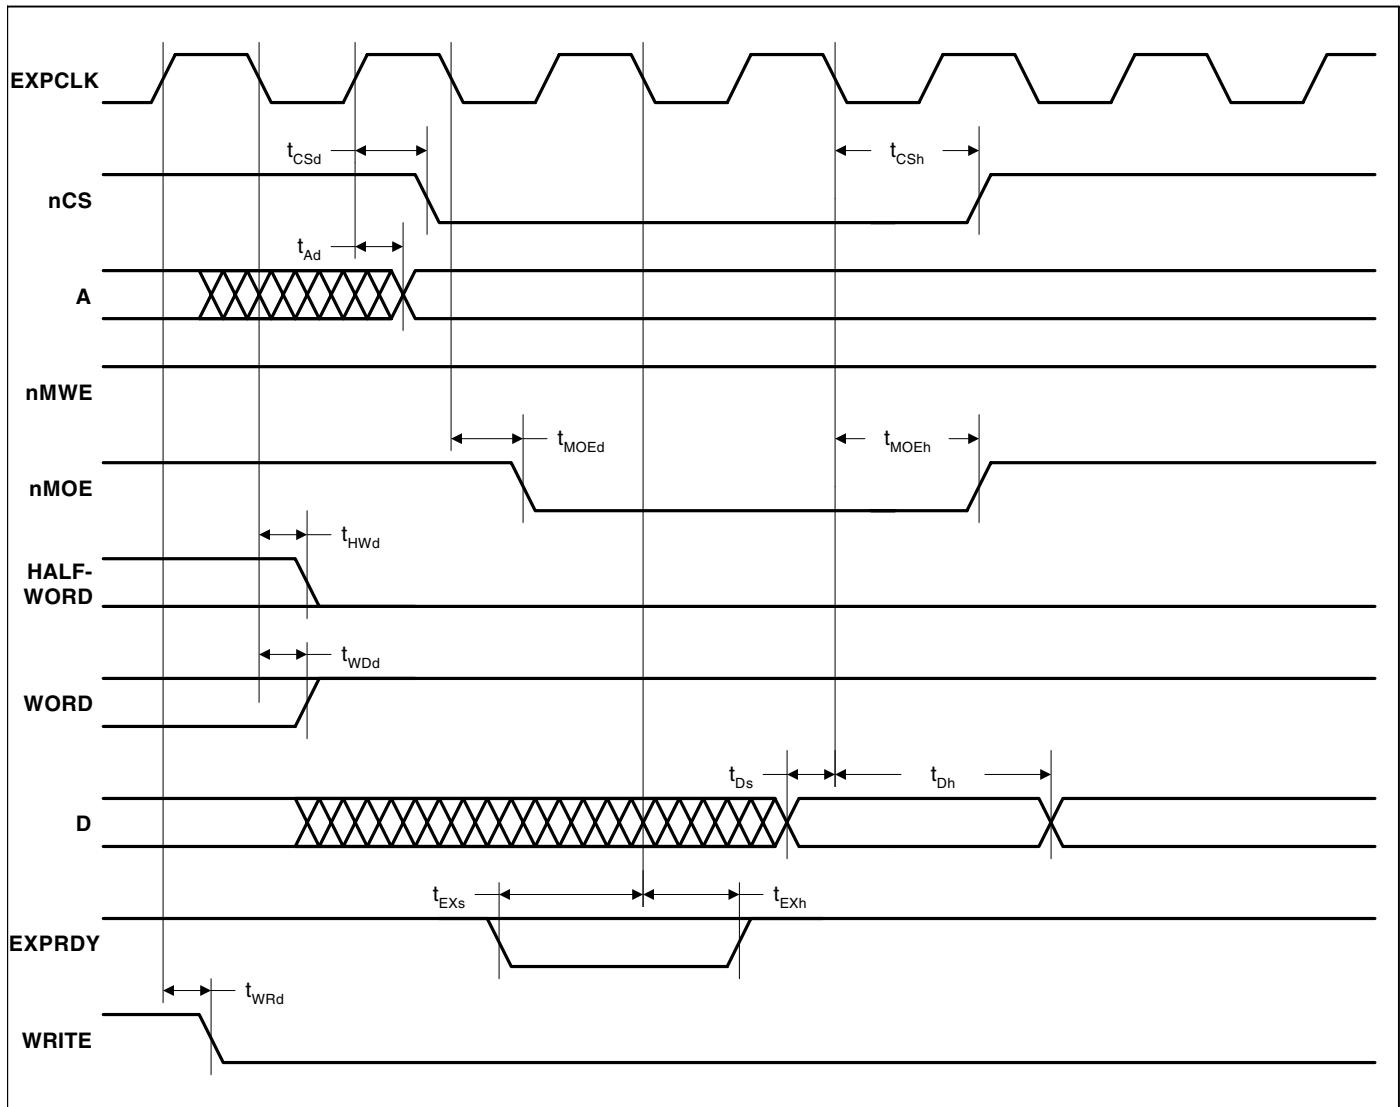

Figure 6. Static Memory Single Read Cycle Timing Measurement
**Figure 6** through **Figure 9** define the timings associated with all phases of the Static Memory. The following table contains the values for the timings of each of the Static Memory modes.